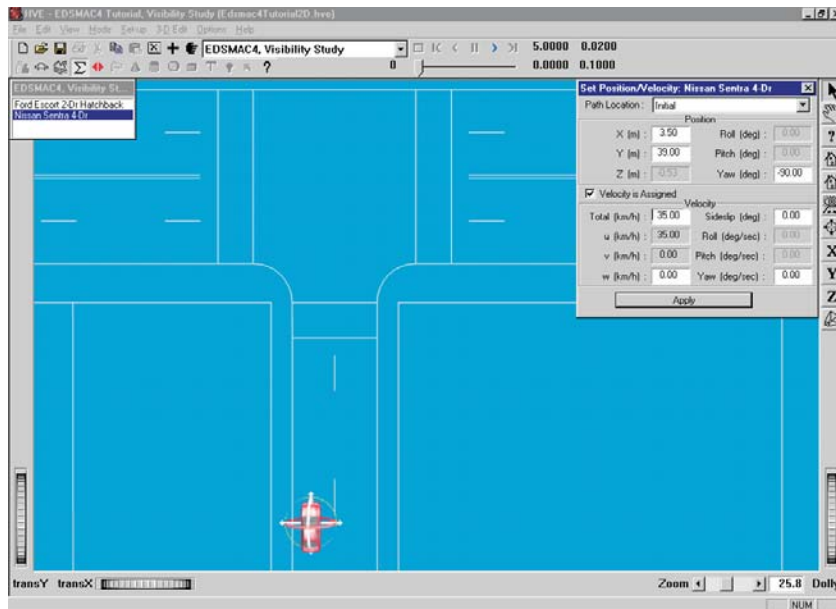

Figure 5-7 Positioning the Nissan Sentra using the Event Editor. The manipulators can be used to *drag and drop* the vehicle into position.
- Click on the vehicle's X-Y manipulator (see Figure 5-7), wait for it to turn bright yellow (indicating it has been selected), and drag it to its initial position, $X=3.5$ m, $Y=39$ m. In the Yaw field in the Position/Velocity dialog, replace the existing value with the heading angle, -90 degrees.